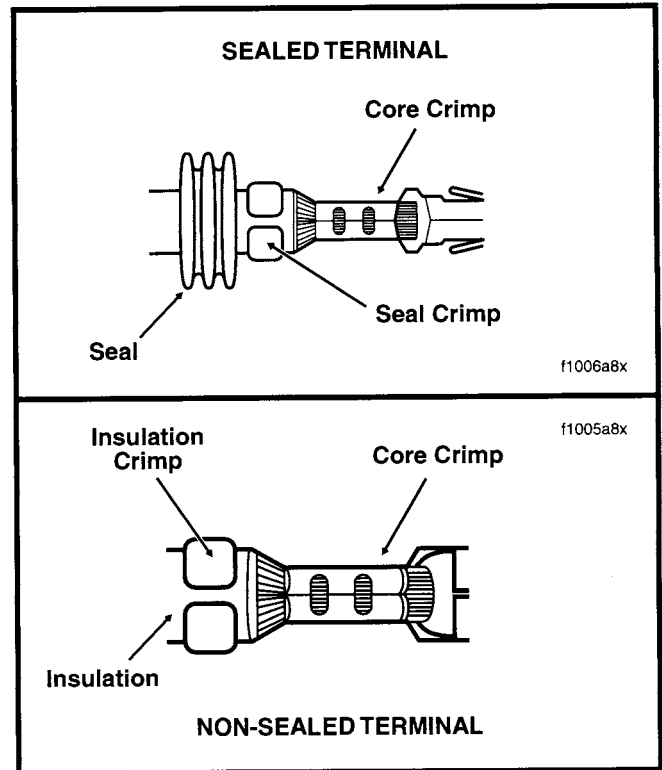

Figure 160. Inspect Core and Insulation/Seal Crimps
11. Inspect the quality of the core and insulation/seal crimps. Distortion should be minimal. See Figure 160.